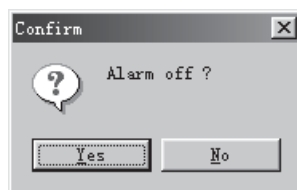

Fig. 7-5 Alarm Off
(2) Alarm Off: Double click the top of the record to cancel the alarm. Then click the $i_1 \text{ Yes } j_1$ button in the dialogue block shown at the same time as in Fig. 7-5.